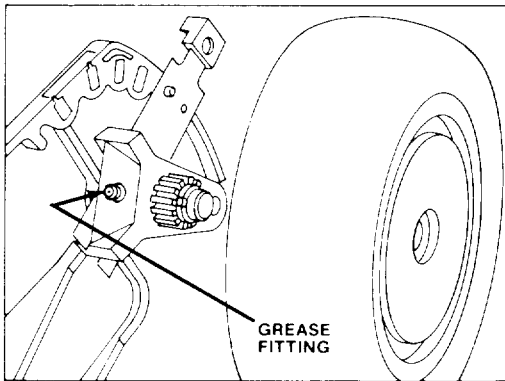

Figure 15
2. GREASE FRONT AXLE PIVOTS (Fig. 15) (model 16785 only) — Adjust height-of-cut to 3-inch setting and loosen wheel bolt to get additional clearance around grease fitting. Wipe grease fitting with clean rag. Install grease gun onto fitting and gently apply 2 or 3 pumps of #2 Multi-Purpose Lithium Base Grease. Excess pressure may damage seals.